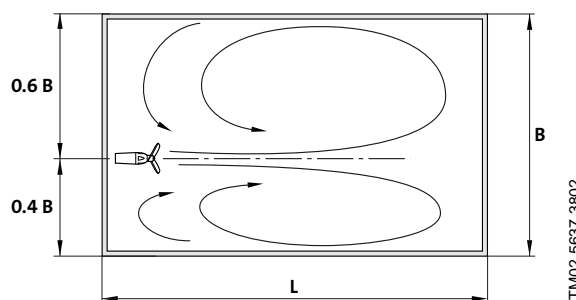

Fig. 31 Solids are kept suspended in the liquid of a rectangular tank
- A steady, circulating flow preventing sedimentation of solids is generated. See fig. 31